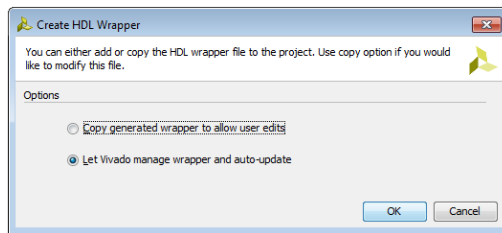

Figure 36. Create HDL Wrapper dialog box
- 3-3-6.** In the **Create HDL Wrapper** dialog box, select **Let Vivado manage wrapper and auto-update** option and click **OK**, see Figure 36.